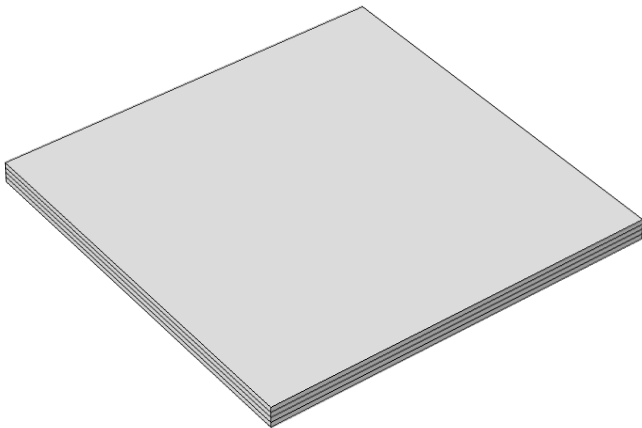

Figure 1: Geometry of layered shell with ply orientations 90/-45/45/0 from bottom to top.
-45/45/0) is subjected to an in-plane axial tensile load. The actual geometry of the laminate is shown in Figure 1.